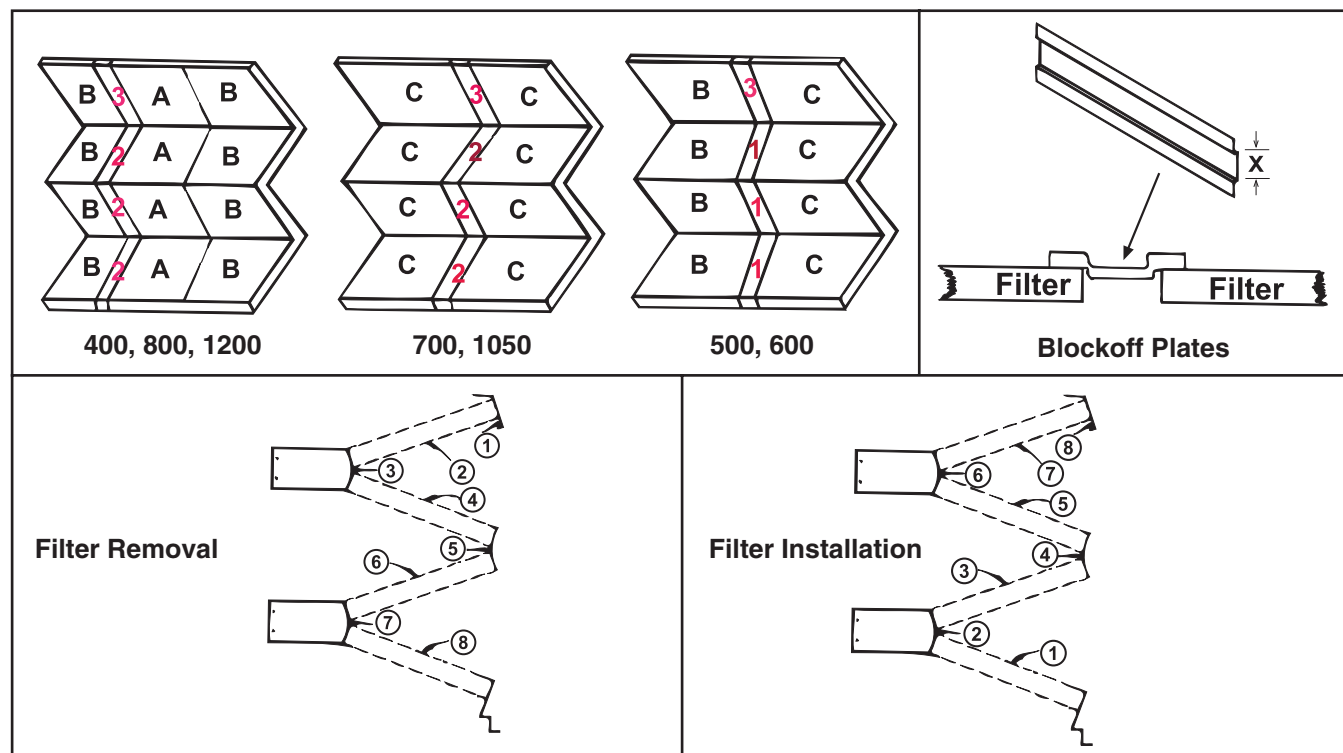

Figure 30. Filter Arrangements—RGLB, RPBL, PGBL, and RBL (Blower Cabinet) Models
- Filter arrangements for RGBL, RPBL, PGBL, and RBL (blower cabinet) models manufactured *before* SEP 1991 are shown in Figure 30 and listed in Table 54.
*See Figure 30 .
**Quantity is one (1) unless otherwise indicated.
***Refers to X dimension shown in Figure 30 .
- Remove filters as follows (see **Filter Removal** detail in Figure 30):
- Install filters as follows (see **Filter Installation** detail in Figure 30):